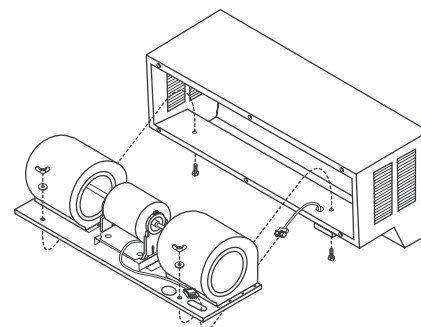

Figure 2 – Installation of Motor/Blower Assembly
2. Install motor/blower assembly in cabinet, bringing switch cord connector up through oval hole in motor/blower pan. Connect motor cord (male connector) to switch cord (female connector) to complete the electrical hookup (Figure 2).
- Install motor/blower assembly in cabinet, bringing switch cord connector up through oval hole in motor/blower pan. Connect motor cord (male connector) to switch cord (female connector) to complete electrical hookup (Figure 2).